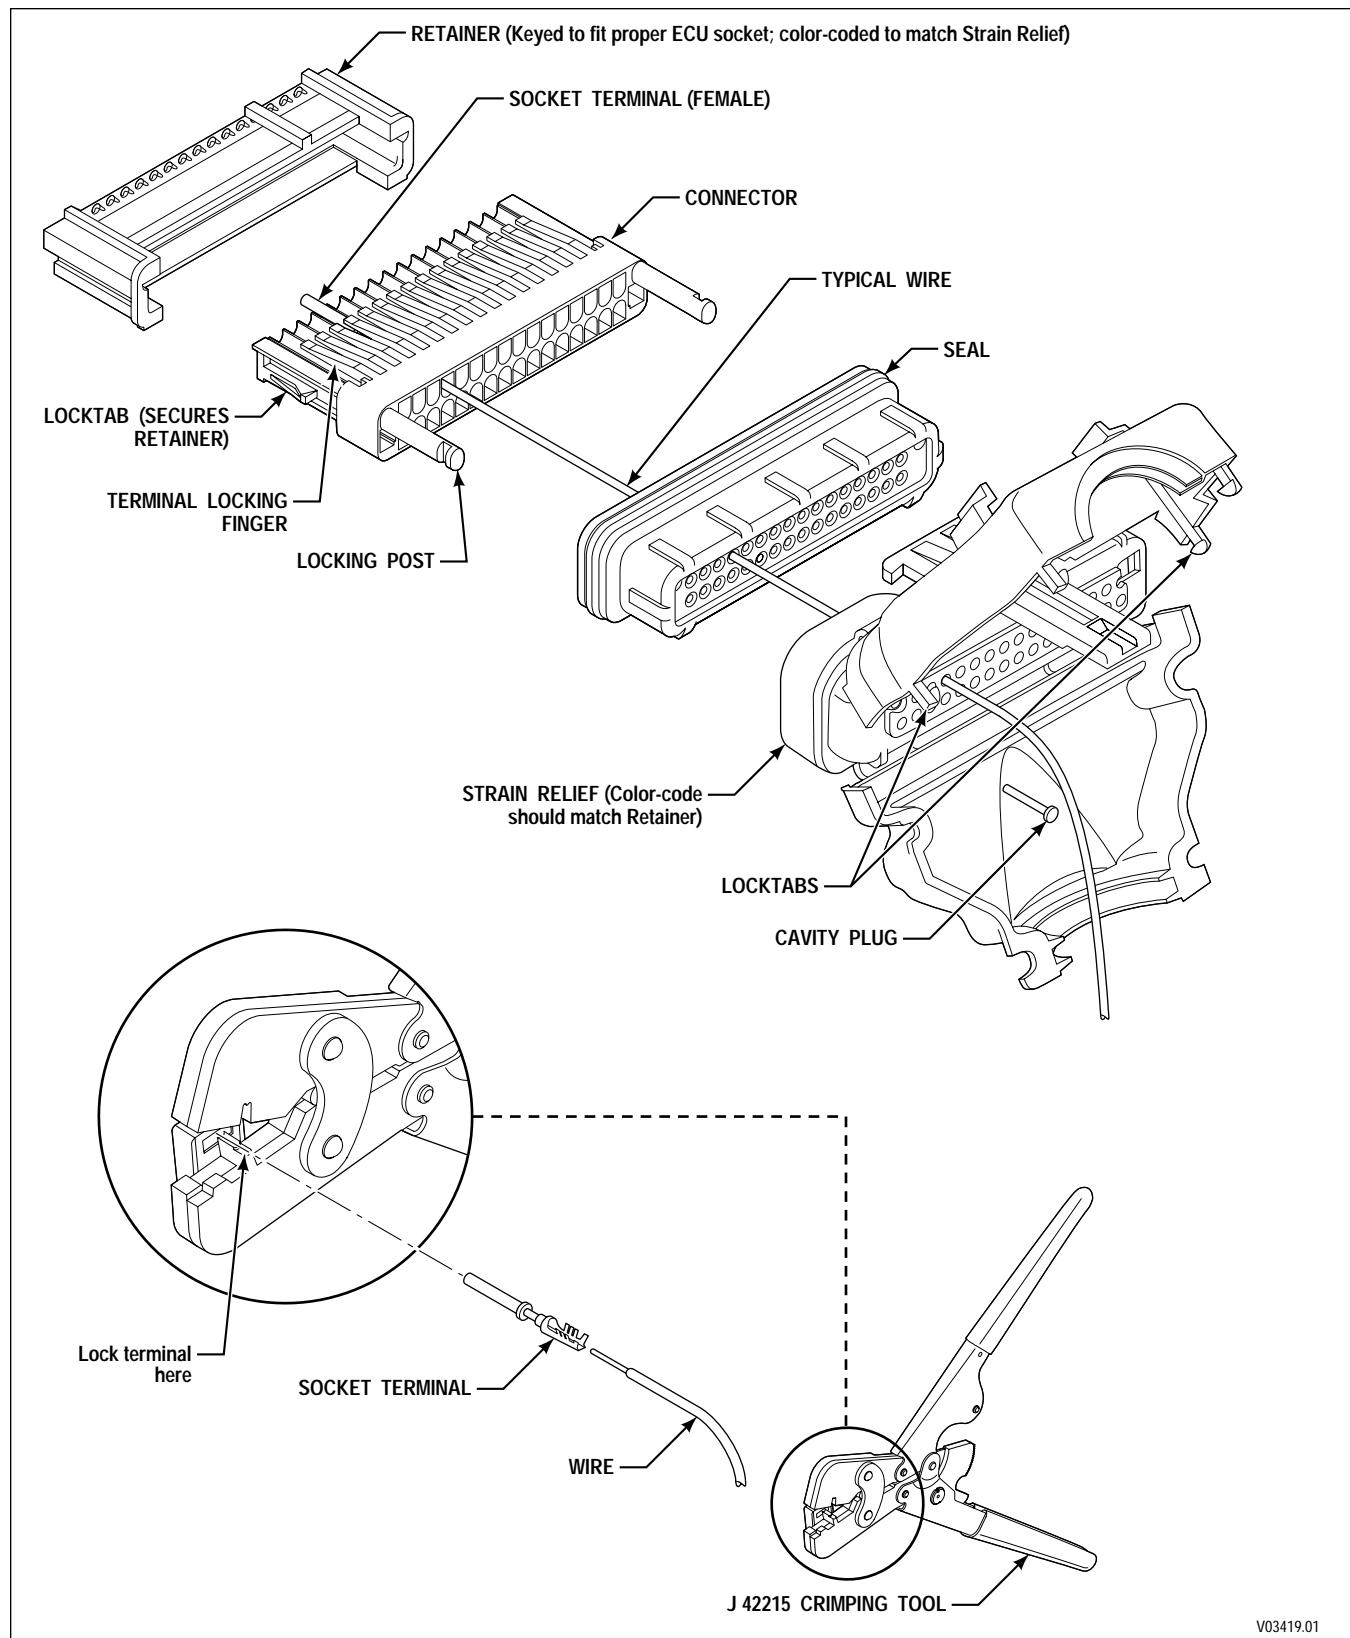

Figure E-1A. Delphi-Packard Micro Pack Connector (ECU)
1. ECU Harness Connectors (*Figure E-1A*)
The color-code of the strain relief should match the color-code of the retainer. However, cases have been reported where this has not occurred. The retainer color-code and key configuration ensures that the proper wiring harness connector is in the right socket of the ECU. The color-code of the strain relief is of secondary importance and may not agree with the retainer. Change the strain relief to match the color-code of the retainer (*Figure E-1A*) when color-code mismatch is found.
5. Complete terminal installation of the ECU Connectors as follows: (*Figure E-1A*)